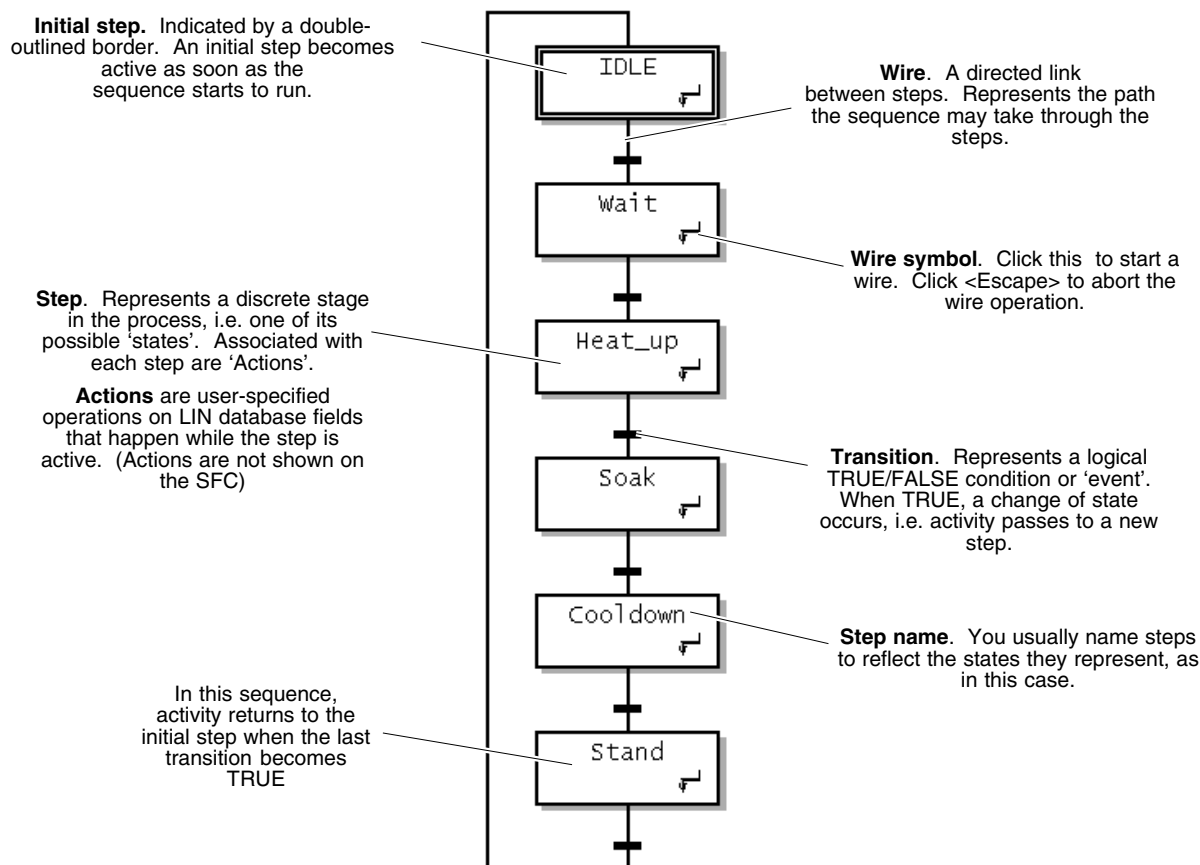

Figure 8-2 The sequential function chart (SFC) — initial version
In LINTools a sequence is represented and configured graphically as a *Sequential Function Chart* (SFC). An example of an SFC, the one you are about to build, is shown in Figure 8-2. The *Steps* in the SFC represent states, and the *wires* between them determine which state(s) can be adopted from a given state, and the events that will trigger these state-changes.
Figure 8-2 shows the sequence (SFC) you are about to build. You can see that each stage or *state* in the vat-heating process is represented by a sequence *step*, one of the labelled boxes in the SFC. Apart from the first (top-most) step, an initialisation step where nothing much happens, each step corresponds to one of the batch phases you defined in Chapter 6, *Batches*.
- 2 Place five more steps below the first, spaced out a bit more generously than those shown in Figure 8-2. An invisible grid helps you align the steps.
To move a step, simply drag it with the mouse but avoid clicking on its wire symbol (see Figure 8-2). To delete a step, click it to highlight it then press **<Delete>**.
- 5 Tidy up the layout so that it looks like the one shown in Figure 8-2. To move a wire just drag it perpendicular to its length. To delete a wire with its transition, highlight the transition and press **<Delete>**. If you move a transition, the associated wire moves with it. Zoom the window by clicking   if you need a closer view.
- 3 Click the next step to see its step pane, and overwrite the default name with 'Wait'. Leave the **Initial** field at FALSE. Rename the remaining steps according to Figure 8-2.